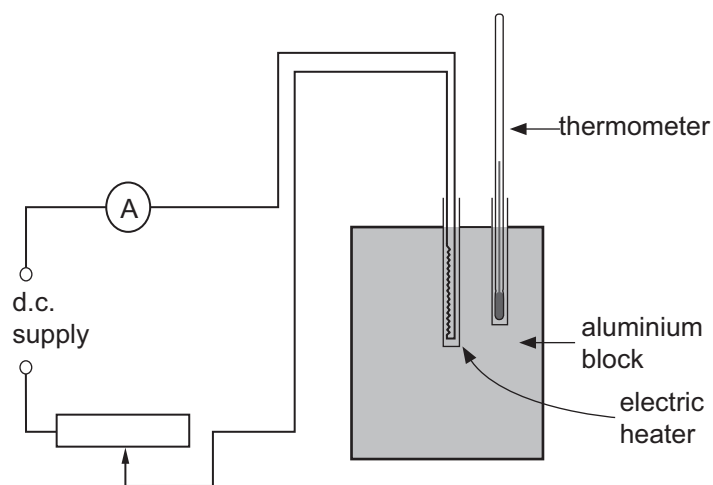

Fig. 1.1
- 1 The apparatus shown in **Fig. 1.1** can be used to determine the specific heat capacity of aluminium.
(ii) Explain how you would modify the apparatus in **Fig. 1.1** to obtain a more accurate value for the specific heat capacity of aluminium.